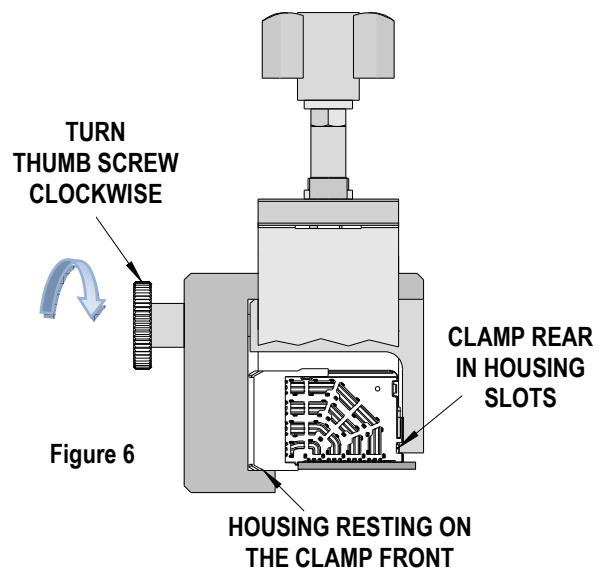

Figure 6
4. Slide the clamp front onto the bottom lip of the front module by turning the thumb screw clockwise. See Figure 6.